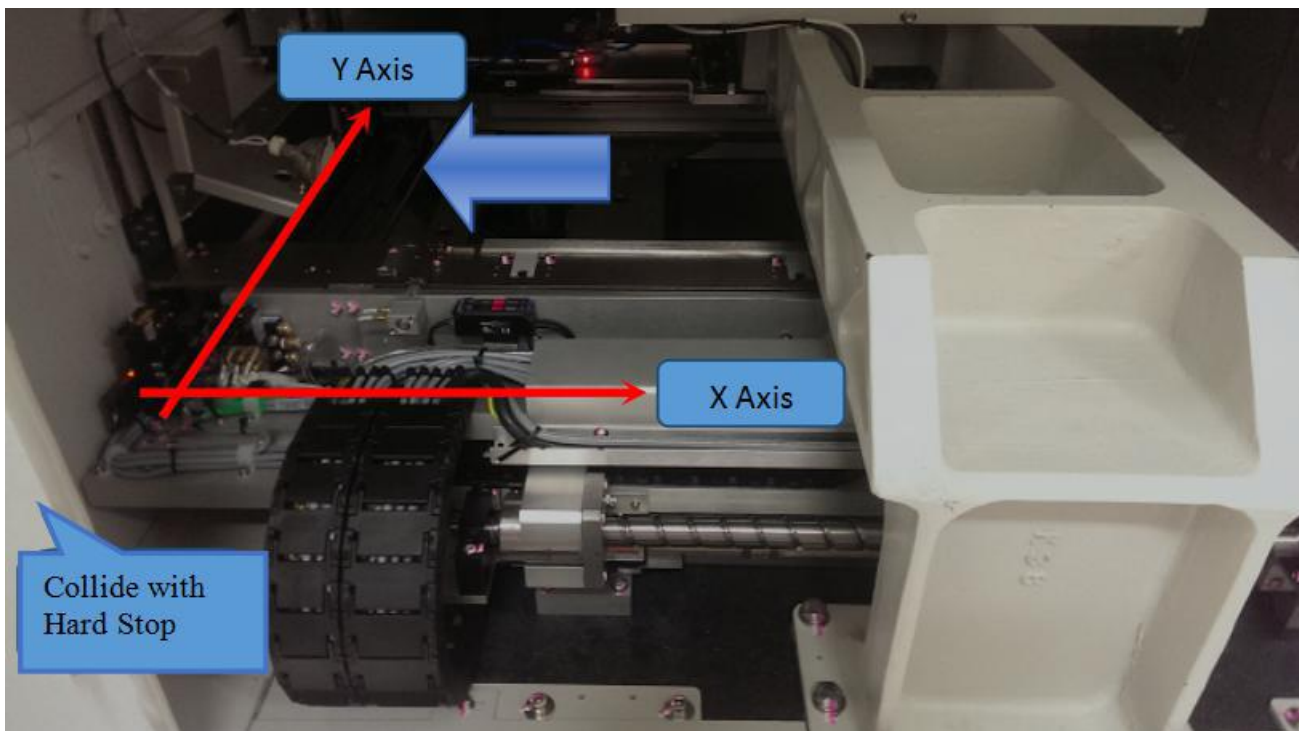

Figure 13 Minimum hard stop
25. Push the stage towards the minimum hard stop (left outer barrier) as shown in Figure 13.